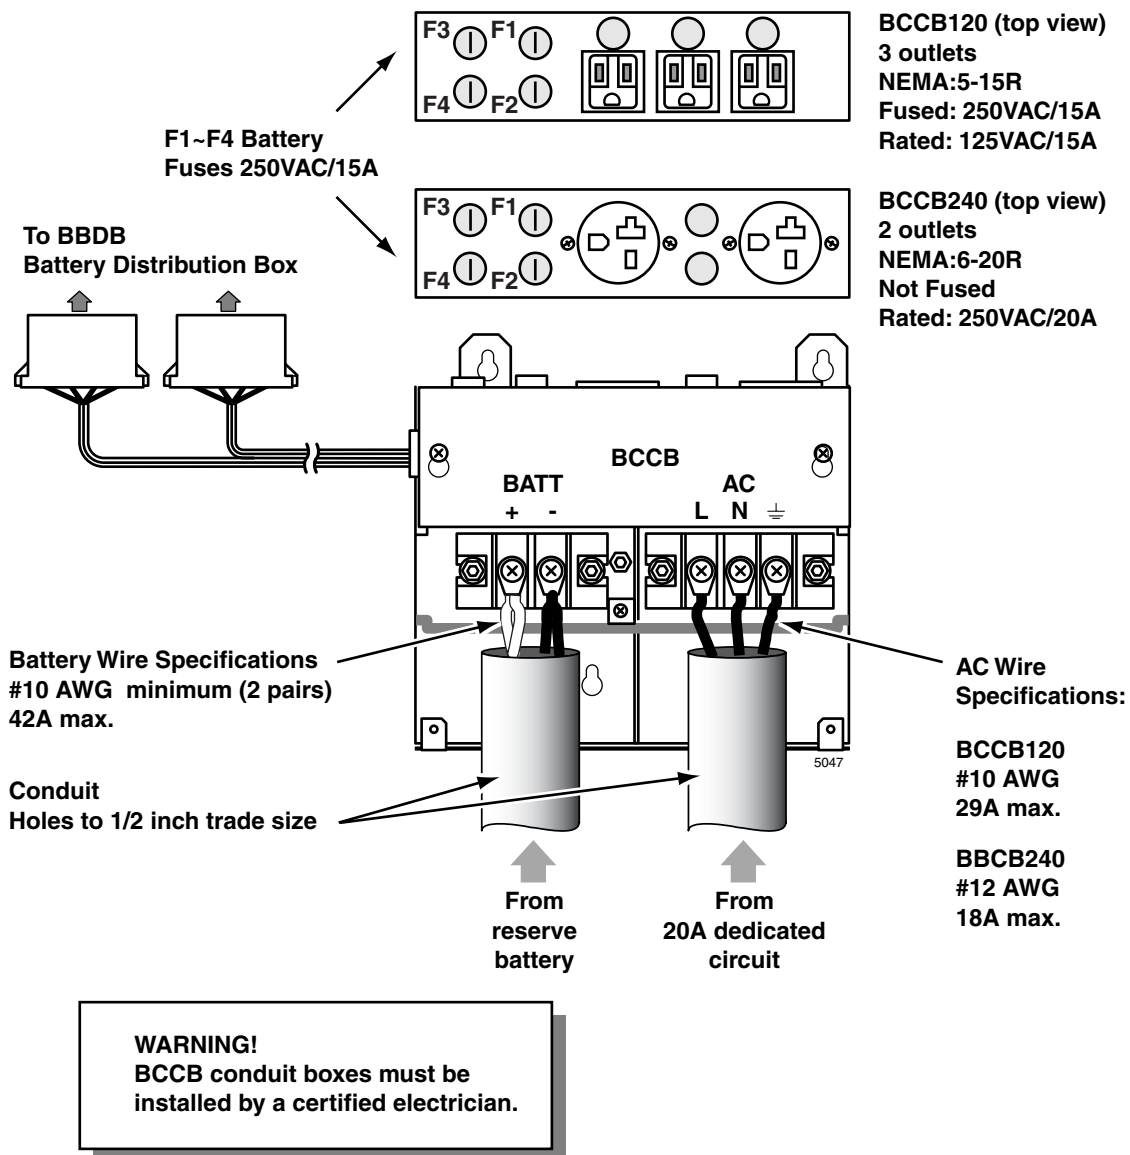

Figure 3-21 BCCB AC Power and Battery Connections
- ◆ When floor mounting the CTX670, the batteries must be installed by a licensed electrician per local electric code using conduit. (See Figure 3-21.)
2. Have a licensed electrician install conduit and battery cabling to the Conduit Connection Box per local electrical codes. The remaining steps in this procedure can be performed by the regular system installer (see Figure 3-21).